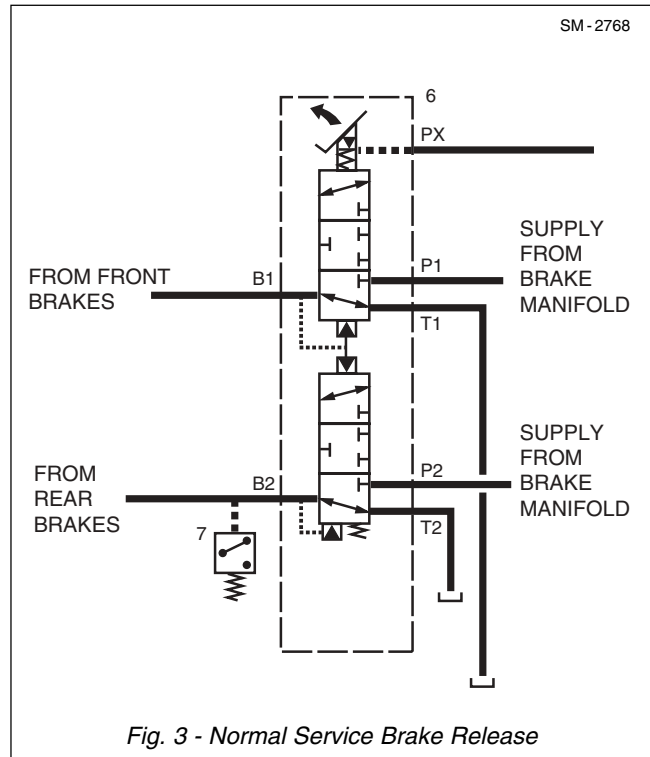

Fig. 3 - Normal Service Brake Release
Refer to Fig. 3. The normally open temperature switch on the front axle manifold valve closes when disc brake cooling oil temperature reaches 50°C (122°F), energising the solenoid cartridge (1). When the solenoid cartridge (1) is energised, hydraulic oil is prevented from flowing through the valve and is forced through the disc brake oil cooler fan motor, thus increasing the fan speed.
Refer to Fig. 3. When the operator releases pedal (1) assembly, regulator spools (16 & 14) will become unbalanced and move upwards, opening outlet ports 'B1' and 'B2' to tank. At this point, oil in the 'B1' and 'B2' lines is released to tank through tank port 'T', releasing the brakes.